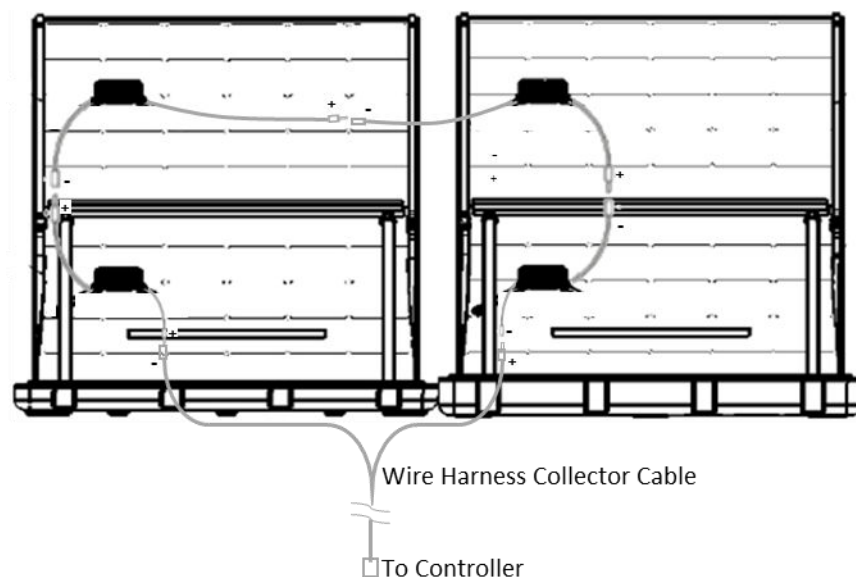

Figure 14. Four Series (4s) Electrical Configuration (Standard)
- **4 Series (4s) Connection** (Figure 14). At STC, the 4s connection provides a typical voltage of $79.7V_{oc}$ (open circuit) when not under load and 65.2V under load. In this configuration, the average current delivered by the array under load is 8.72A.
5a. After connecting the solar panel electrical connectors in a 4s configuration there will be two unconnected wires, one a positive (male) connector and one a negative (female) connector. A best practice for cable management is to make connections so that the free ends originate from the lower solar panels as shown in Figure 14.